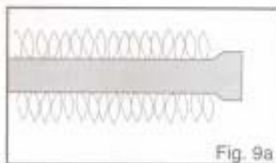

Fig. 9a
6. Confirm that the burner is properly lit and that the flame pattern is as desired, (see Figs. 9a, 9b & 9c, for the proper flame patterns). If the flame pattern is other than normal, consult the Troubleshooting Guide on Page 23 for corrective action.
6. Confirm that the burner is properly lit and that the flame pattern is as desired, (see Figs. 9a, 9b & 9c for the proper flame patterns). If the flame pattern is other than normal, consult the Troubleshooting Guide on Page 21 for corrective action.